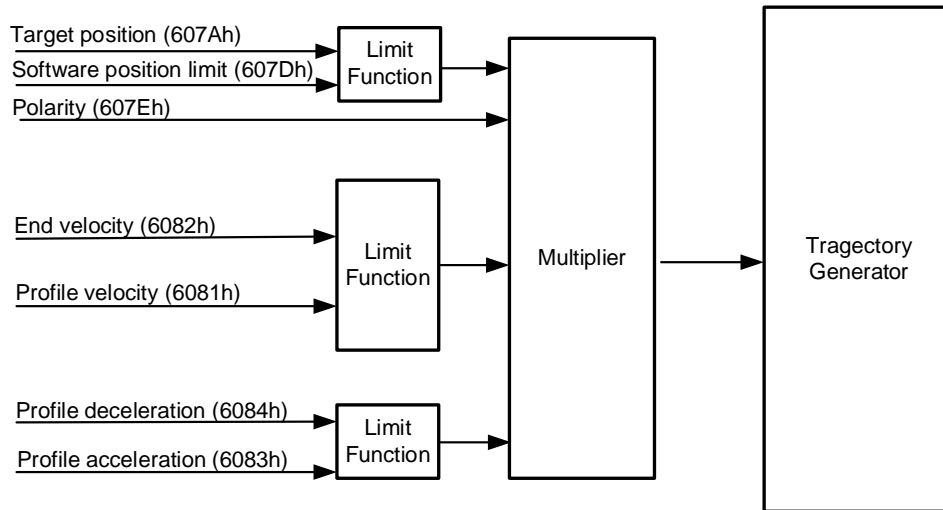

Figure 22: Profile Mode Trajectory Generator
Profile position (PP) mode receives the user-set speed, acceleration, deceleration, and target position commands to design the trajectory (see Figure 22 on page 43). The stepper driver unit controls each axis to move from the initial position to the target position according to the designed trajectory.